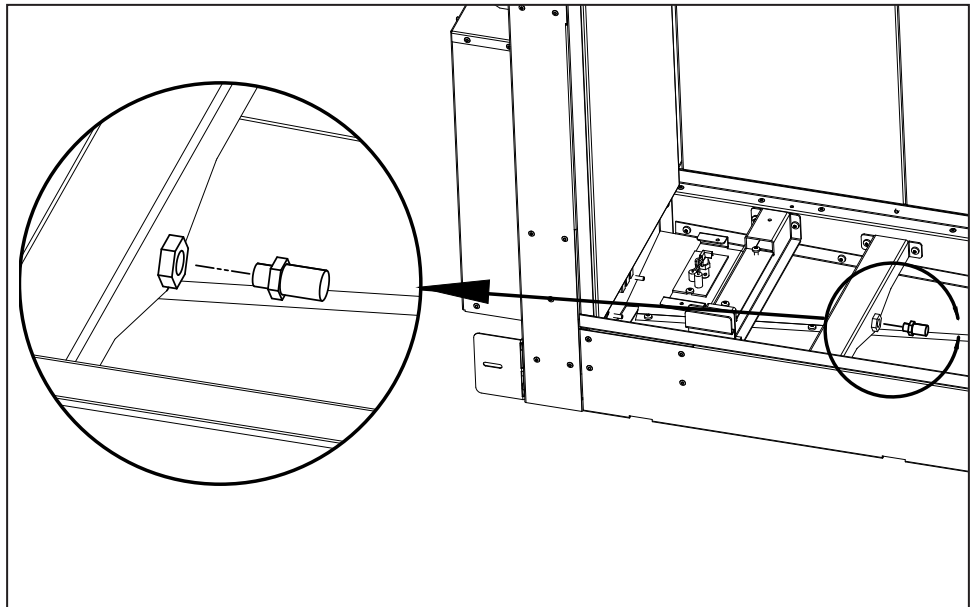

Figure 14: Orifice Location
- 3. Convert the existing burner orifice with the one(s) provided in this kit using a 1/2 inch socket (Figure 14).